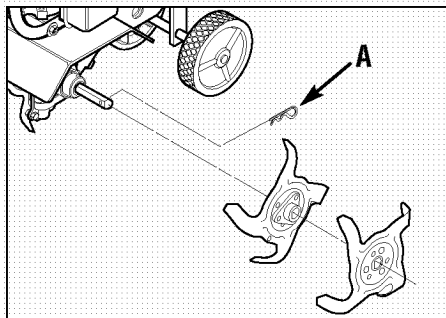

Figure 15: Remove hitch pin (A) to take off tines.
IMPORTANT: The hitch pin (A, Figure 15) is under spring tension – wear gloves to protect your fingers when removing or replacing the hitch pin.
2. Remove the hitch pin (A, Figure 15).
2. Remove the hitch pin (A, Figure 15) from both sides of the unit. Remove both outer tine sections. Mark each section as a left or right side tine and whether it is an inner or outer section.